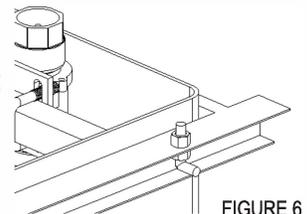

FIGURE 6
Place the riser with the emergency shut-off valve plate against the stabilizer bar. Using the provided (2) U-bolts, washers and nuts, loosely mount the emergency valve to the stabilizer bar. Follow the manufacturer of the emergency shut-off valve instructions to ensure proper valve positioning. Adjust assembly as necessary and tighten securely. See FIGURE 6.